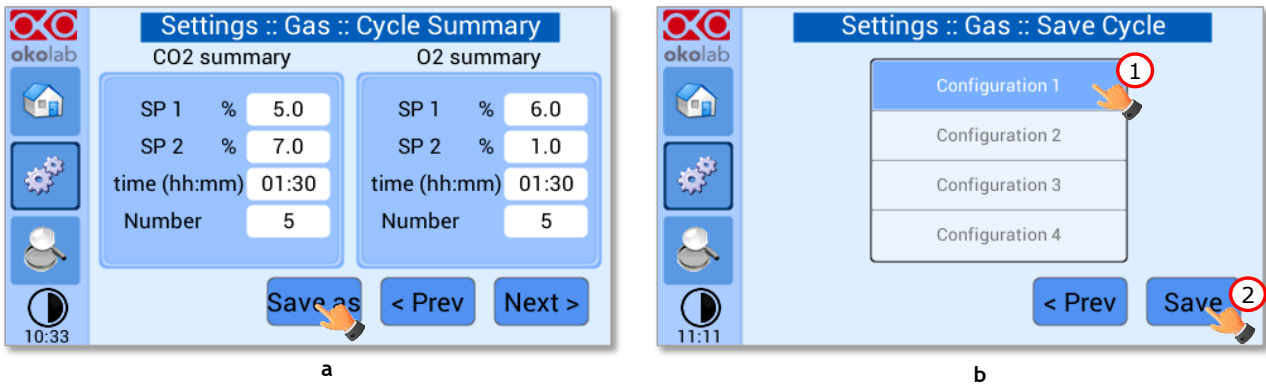

Figure 54. Cycle Summary and Configuration Saving (a - b).
4. Once you have adjusted the settings, the *Cycle Summary* page will be displayed (see Figure 54 a). Press *Save As* if you want to save the CO₂/O₂ Cycle program to be recalled for future experiments.